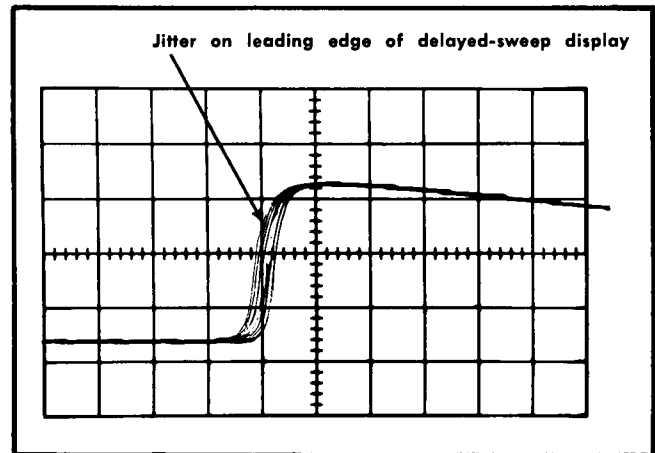

Fig. 5-4. Typical CRT display showing acceptable delay-time jitter.
d. Check—Jitter on leading edge of marker not to exceed 0.5 division (1 part in 20,000); see Fig. 5-4. Ignore slow drift.